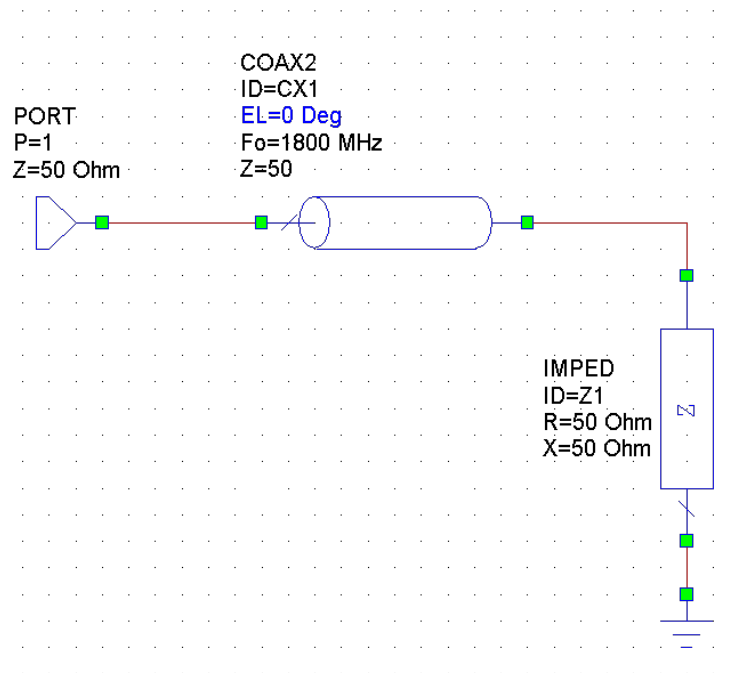

Figure 4.6: Chart 2 : Input Impedance Schematic showing Tune Tool selection of the electrical line length
- Click the electrical length parameter of the line TLIN element. It should turn blue. See figure 4.6